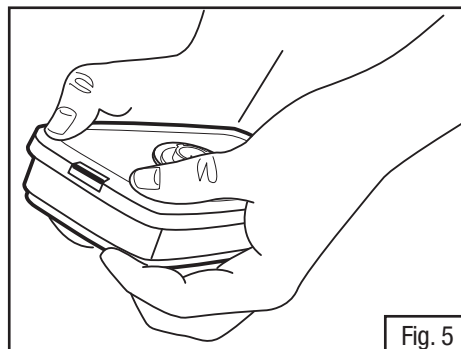

Fig. 5
2. Engage back snap by squeezing back side of cartridge and adapter together using the same hand positions. An audible click should be heard as each snap is engaged (Fig. 5).